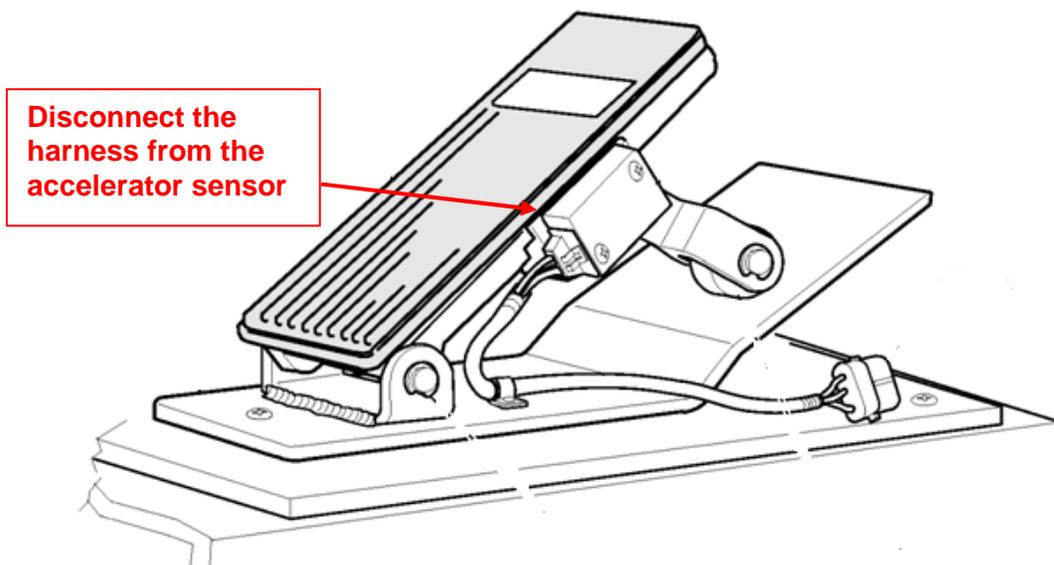

Figure 3: Brake/Accelerator Treadle Assembly
9. Disconnect the harness from the accelerator sensor, see Figure 3.